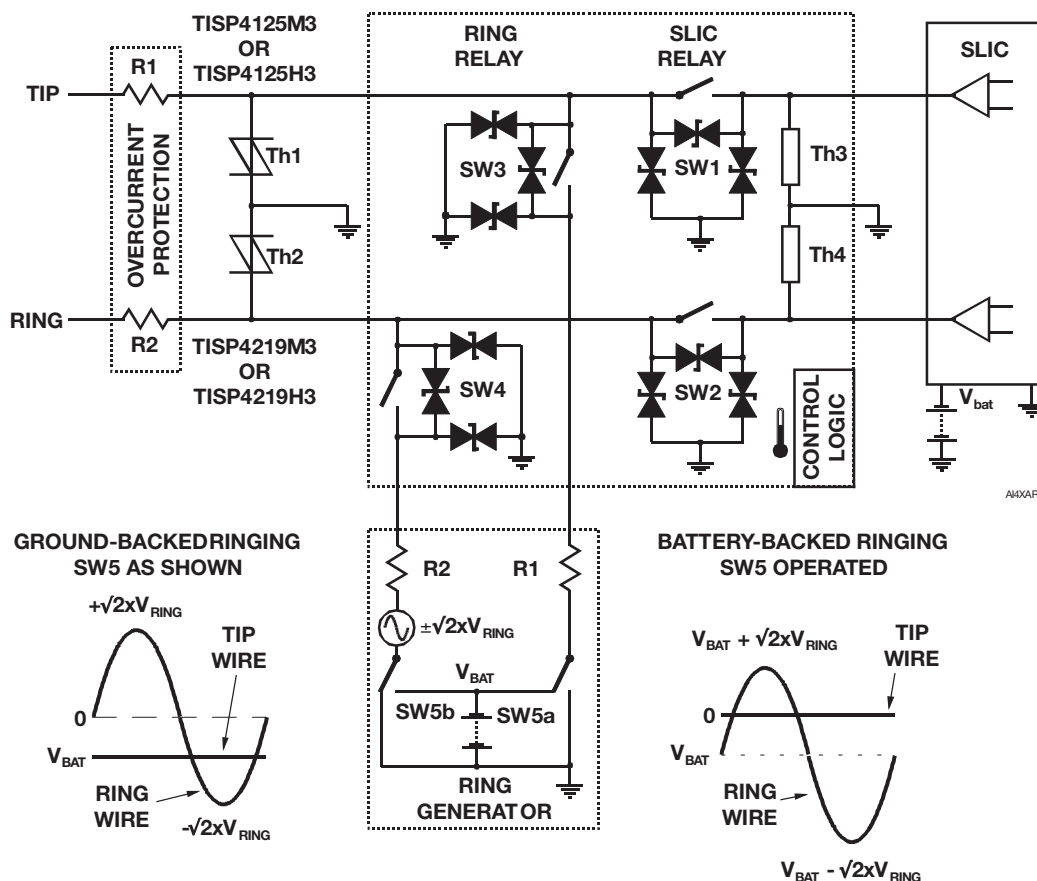

Figure 13. LCAS Shown with Switch Breakdown Limits
Figure 13 shows the LCAS switch voltage ratings as breakdown diodes, which must not be allowed to conduct. Each switch has three diodes; one between poles and the other two from each pole to ground. At 25 °C, switches SW1 through to SW3 have breakdown diode voltages of ± 320 V. Switch SW4 has breakdown diode voltage values of ± 465 V for the one between poles and ± 320 V for the two diodes connected to ground. Note that only protection to ground is required, as in the limit, the inter-switch voltage limitation of ± 640 V is the same as the switch to ground limitation of +320 V and -320 V in both polarities.
- ground-backed and battery-backed ringing configurations (see Figure 13).